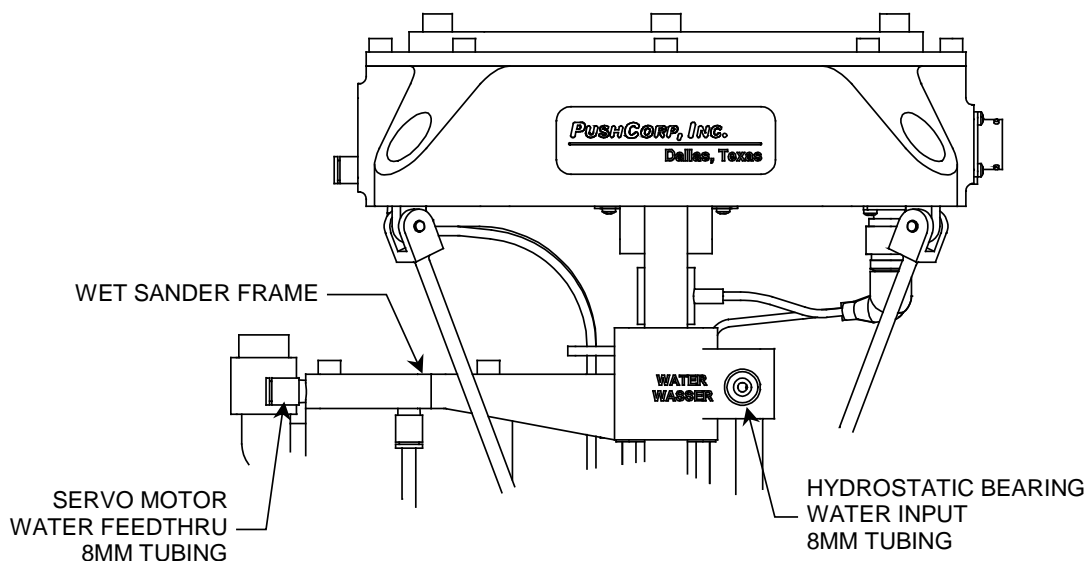

Figure 4. *AWS1100* Water Connections
Figure 4 shows the (2) water connections on the *AWS1100*. The first water connection on the Wet Sander Frame is a 8mm Push-lock Fitting, labeled “WATER (WASSER)”. The Hydrostatic Bearing Water Input supplies the hydrostatic bearings. The hydrostatic bearings require pressurized water to provide the force to separate the bearing from the round linear shaft. The greater the water pressure, the greater the bearing load capacity. The *AWS1100* requires a minimum 60 psi (4.2 bar) to a maximum 100 psi (6.8 bar) water pressure. Without proper water pressure, the bearing will come into contact with the linear shaft and cause excessive friction and force errors. The second connection is an 8mm push-lock fitting, supplying water to the Servo Motor Water Feedthru.